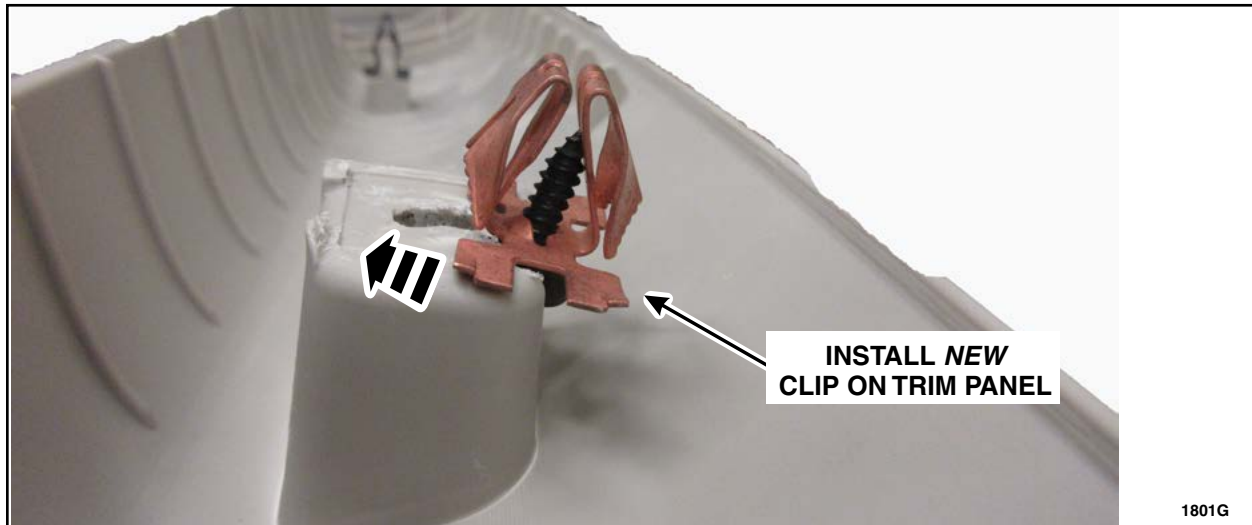

FIGURE 9
10. Install the *new* A-Pillar trim panel clip onto the trim panel. See Figure 9.